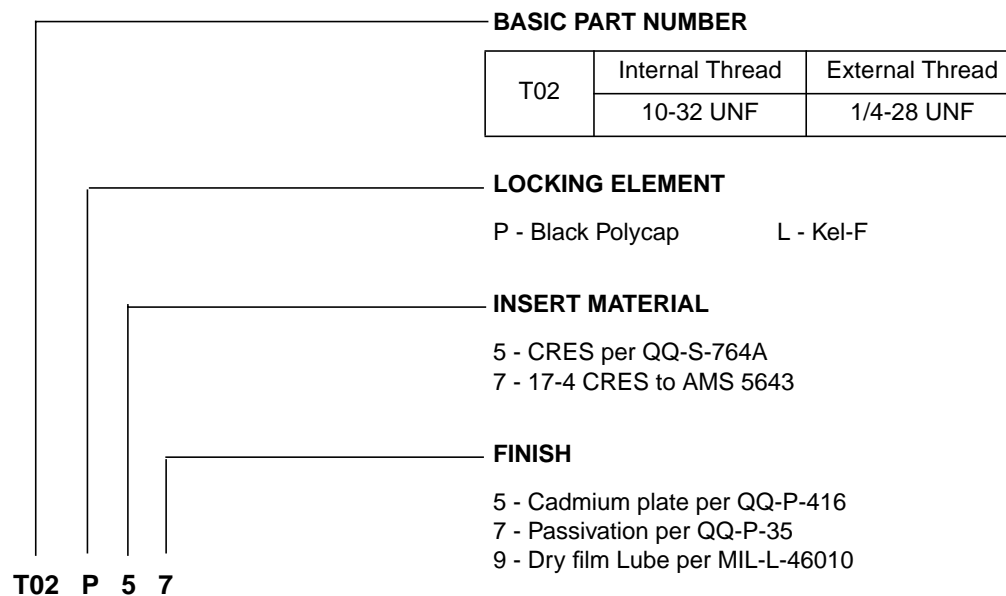
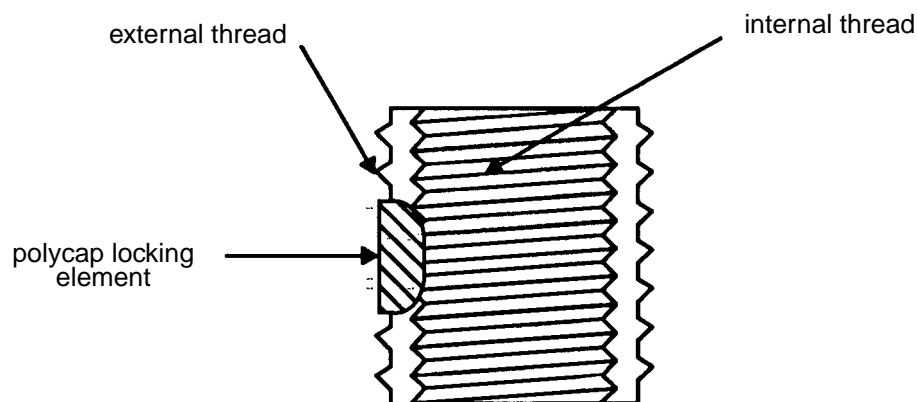

Figure 1 - T-Sert Part Number Breakdown
Figure 2 - T-Sert Self-Locking Insert
- 4.1.1 T-Sert inserts as specified on the engineering drawing. Refer to Figure 1 for a part number breakdown. Refer to Figure 2 for a general description of T-Sert inserts.